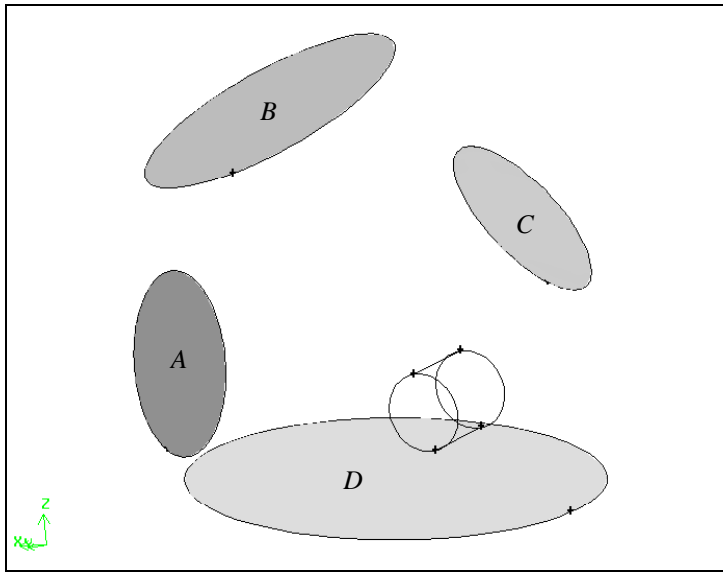

Figure 13-18: Four large, circular faces to be meshed
- a) Select the four large, circular faces (*A*, *B*, *C*, and *D*) shown in Figure 13-18.